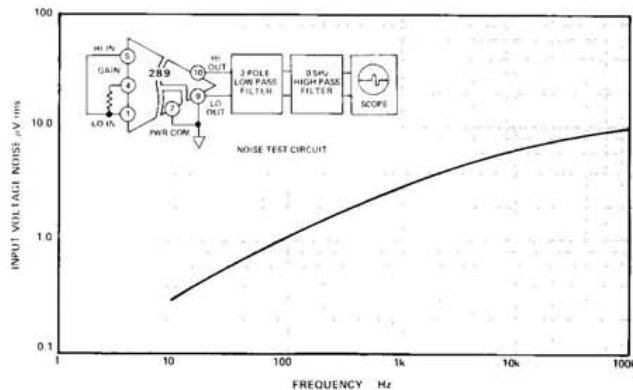

Figure 8. Typical Input Voltage Noise vs. Bandwidth
**Input Voltage Noise:** Voltage noise, referred to input, is dependent on gain and bandwidth. Figure 8 shows rms voltage noise in a bandwidth from 0.05Hz to the frequency shown on the horizontal axis. The noise in a bandwidth from 0.05Hz to 100Hz is 8μV pk-pk at a gain of 100V/V. The peak-to-peak value is derived by multiplying the rms value at F = 100Hz (1.2μV rms) by 6.6.